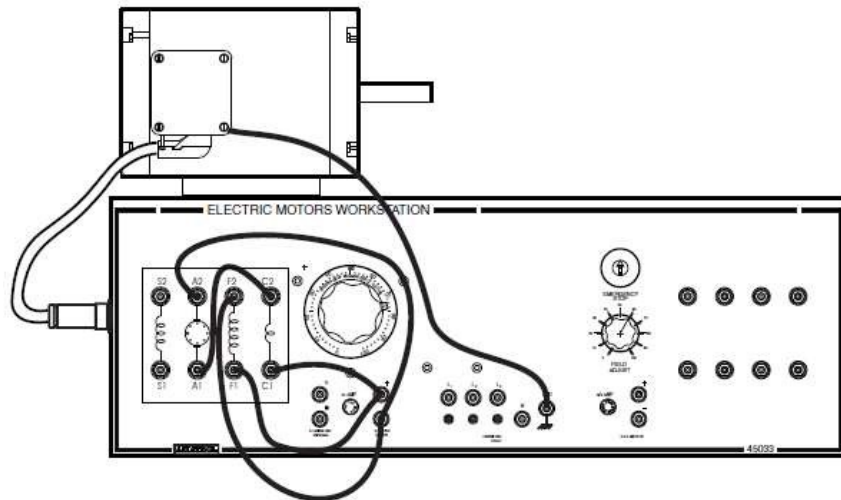

Figure 2: The wiring connections for a self-excited DC shunt motor
5. Verify the connections on the Machines Training Unit by reviewing the illustration in Figure 2, which shows the connections between the different banana jacks on the Unit.